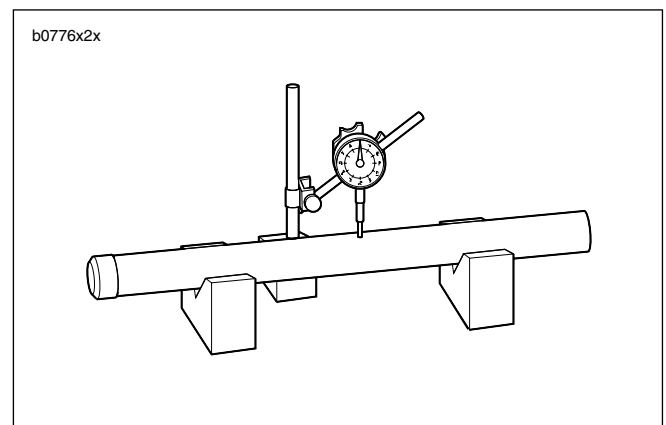

Figure 2-70. Slider fork Runout
3. Check the slide bushing (21) and the guide bushing (22) for excessive wear or scratches. Replace if damaged or worn.
4. Replace the stopper ring (19) if distorted.
5. Measure spring (16) free length. Replace springs shorter than service wear limit of 9.13 in. (232 mm).
6. See Figure 2-70. Measure slider fork runout. Replace pipe if runout exceeds the service wear limit of 0.008 in. (0.2 mm).